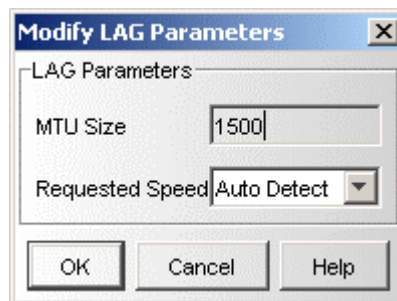

Figure 5-26 Modify Lag Parameters Dialog Box
- Either step displays the Modify LAG Parameters screen appears (see Figure 5-26).